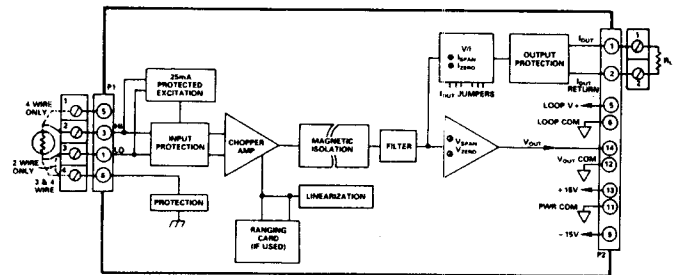

Figure 2.1.9.1 OM3-IP Functional Block Diagram
1. Connect model OM3-IP as shown in Figure 2.1.9.1 with $R_L = 250\Omega$. Substitute a resistance standard for the RTD.